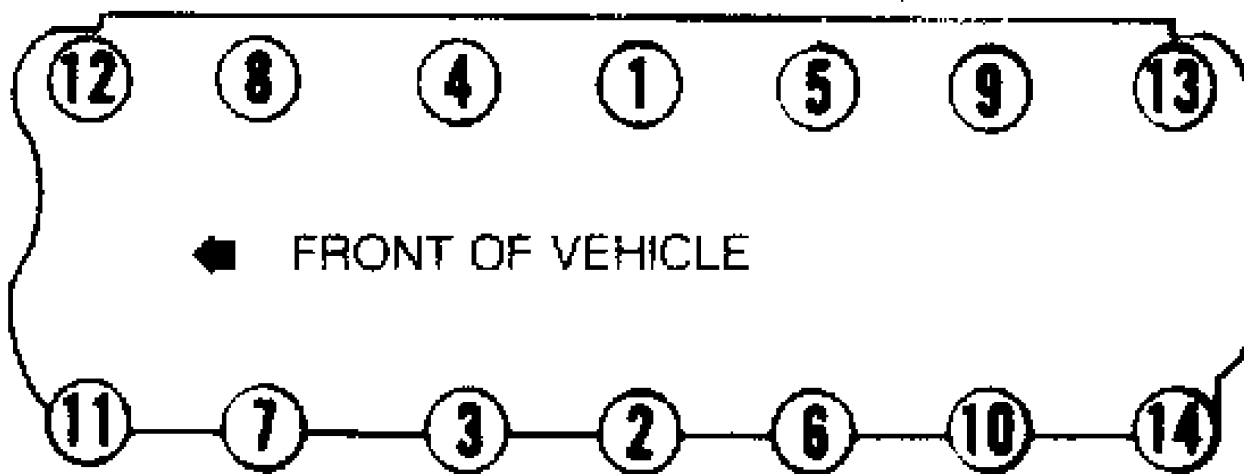

Fig. 3: Cylinder Head Bolt Tightening Sequence
2) Install cylinder head. Apply sealing compound to threads of cylinder head bolt No. 11 prior to installation. See Fig. 3. Install head bolts.
3) Tighten all bolts in sequence (except No. 11) to 110 ft. lbs. (149 N.m) on 4.0L or 85 ft. lbs. (115 N.m) on 4.2L models. Tighten No. 11 head bolt to 100 ft. lbs. (136 N.m) on 4.0L or 75 ft. lbs. (136 N.m) on 4.2L. See Fig. 3.